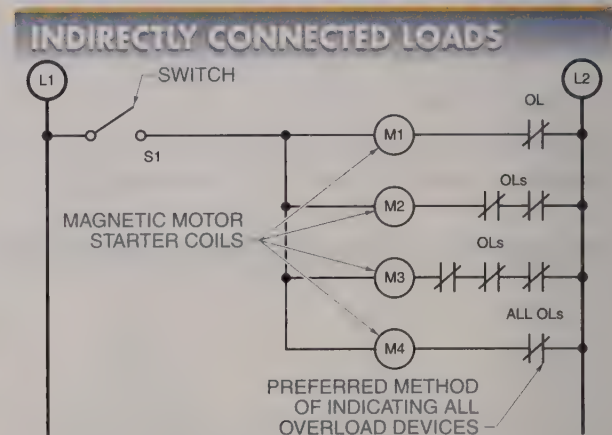

Figure 5-4. Magnetic motor starter coils are connected to L2 indirectly through NC overload contacts.
Magnetic motor starter coils are connected to L2 indirectly through normally closed (NC) overload contacts. See **Figure 5-4**. An overload contact is normally closed and opens only if an overload condition exists in the motor. The number of NC overload contacts between the starter coil and L2 depends on the type of starter and power used in the circuit.